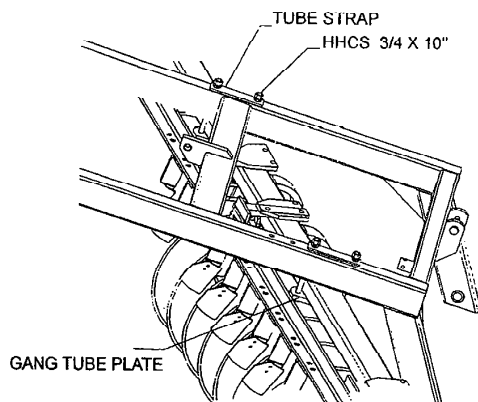

Figure 2 Mounting Gangs to Frames
6) As shown in Figure 2, use 3/4" x 10" bolts through the hole pairs in the left side of the